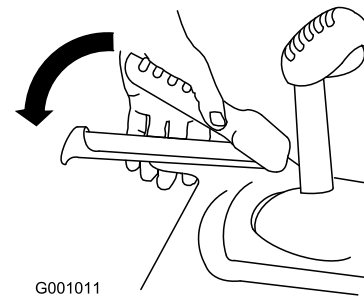

Figure 32
1. To engage the traction drive, squeeze the left (traction) lever to the handgrip (Figure 32).